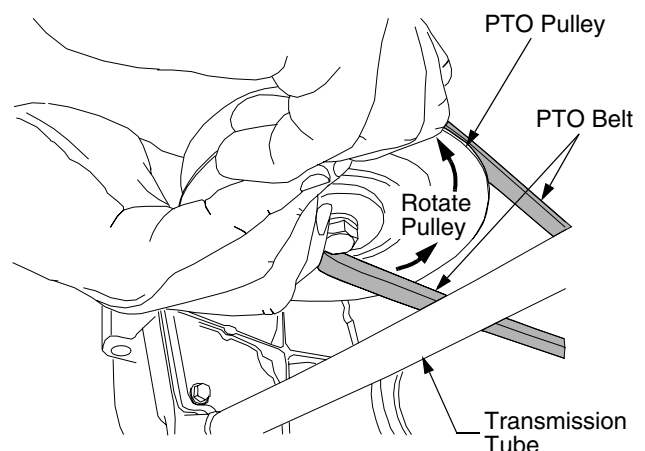

Figure 30
- Pull the right side of the belt rearward and place the narrow V side of the belt into the right/front side of the PTO pulley. See Figure 30.
- While holding the belt and pulley together, rotate the pulley to the left (See Figure 30). Continue holding and rotating the pulley and belt until the belt is fully rolled into the PTO pulley. **NOTE:** If using the left side of the belt, turn the pulley to the right.